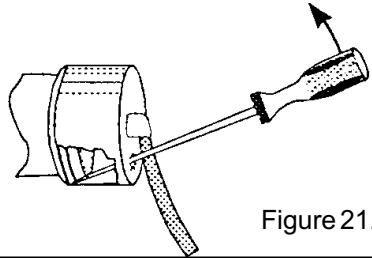

Figure 21.
4. Remove the snap-on cord cap by inserting a slotted screw driver into the access hole, as illustrated in Figure 21, and prying upwards.
- 3. Remove the snap-on cord cap by inserting a slotted screwdriver into the access hole and prying upwards, as illustrated in Figure 21, in the relamping instructions.